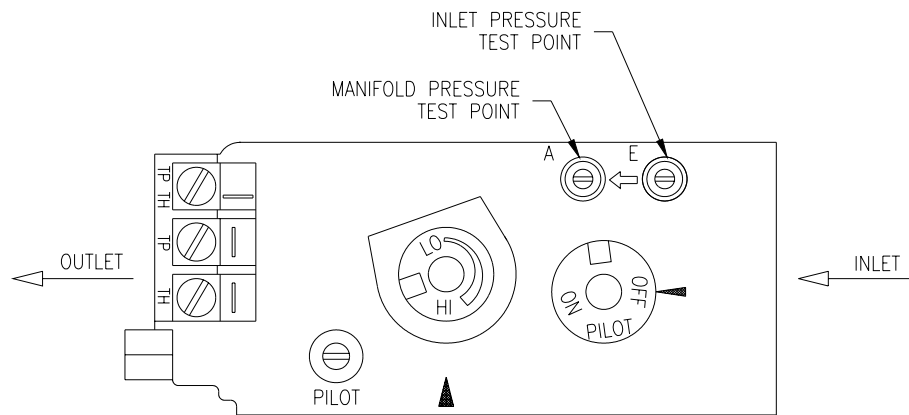

Figure 3
5. Push in the gas control knob slightly and turn clockwise to the "OFF" position. The valve with the control panel removed is shown in Figure 3.